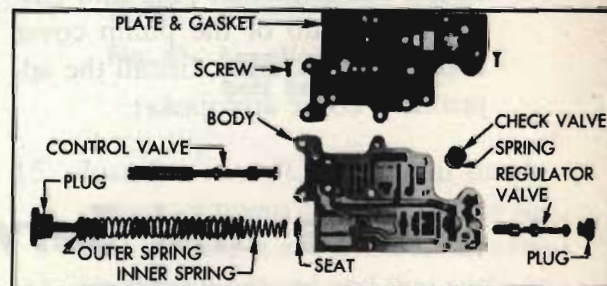

Fig. 47. Valve body disassembled
- Remove the large pressure regulator valve plug from valve body. This plug is spring loaded, so extreme care must be exercised. Remove both springs and the spring seat (Fig. 47).
1. Position front pump delivery check valve in valve body with large end down. Place check valve on spring, ridged side up. (Fig. 47).